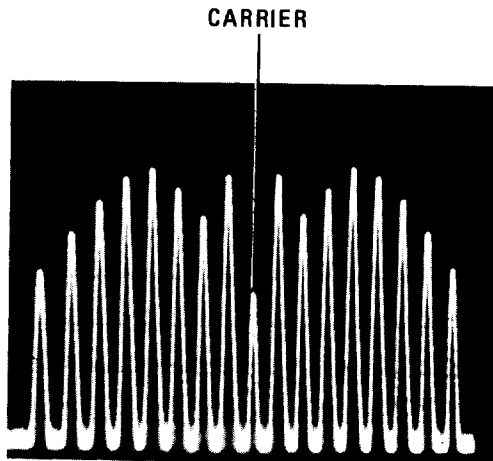

Figure 4-18. Spectrum Analyzer Display of Second Carrier-Null with 900 kHz Modulation Frequency
- l. Adjust spectrum analyzer to center RF carrier on display. Increase function generator amplitude while observing spectrum analyzer display. Sidebands will appear and carrier amplitude will start to decrease. Increase function generator amplitude through first carrier null and up to second carrier null as shown in Figure 4-18. This point is  $\pm 5$  MHz deviation.